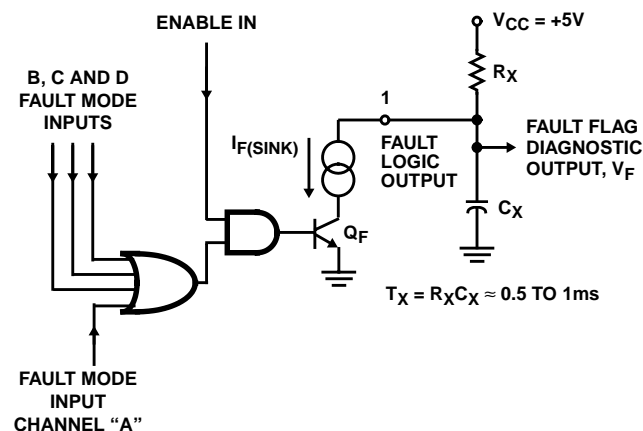

FIGURE 2. EXTERNAL FAULT OUTPUT CIRCUIT AND $I_F(SINK)$ AS FAULT SINK PULLDOWN CURRENT, WHICH IS ACTIVATED BY TRANSISTOR, Q_F , WHEN A FAULT EXISTS
- The I_{OL} value of "Output Low Current, $I_{F(SINK)}$ " at the FAULT pin is both the static leakage of the output driver Q_F and the current sink, $I_{F(SINK)}$. The current sink is active only when a fault exists. When no fault exists, the I_{OH} current at the FAULT pin is the maximum leakage current, $I_{F(LK)}$. Refer to Figure 2 for an illustration of the FAULT output and associated external components. Refer to FAULT LOGIC TABLE for Fault Modes.
- The Voltages, V_{HTHD} , V_{LTHD} are the comparator threshold reference values (Min. and Max. Range) sensed as a high and low state transitions for voltage forced at the outputs. V_{HTHD} indicates an open load fault when the output is decreased to less than the threshold. V_{LTHD} indicates a shorted load when the output is increased greater than the threshold. The output voltage is changed until the FAULT pin indicates a Low (Fault). Refer to Figure 2 for test value of external resistor. Refer to I_{OL} and I_{OH} FAULT PARAMETERS Test Limits to determine V_{OL} and V_{OH} at the FAULT pin.
Since a diagnostic flag indicates when an output is shorted, this information can be used as input to a microprocessor or dedicated logic circuit to provide a fast switch-off when a short occurs and, by sequence action, can be used to determine which output is shorted. A fault condition in any output load will cause the FAULT output to switch to a logic "low". Since a fault condition may be detected during switching, use of an appropriate size capacitor to filter the FAULT output is recommended. The recommended FAULT output circuit is shown in Figure 2. This will prevent the FAULT output voltage from reaching a logic level "0" within the maximum switching time.
The FAULT output diagram of Figure 2 shows the circuit component interface for sensing a diagnostic fault condition. As noted, the time constant of $T_X = R_X C_X$ should be greater than the ON-OFF output switching times to avoid false fault readings during switching. For applications requiring fast period repetition rates, the maximum time constant should be significantly less than the period of switching. The shortest practical time constant is preferred to limit the duration of a fault condition.